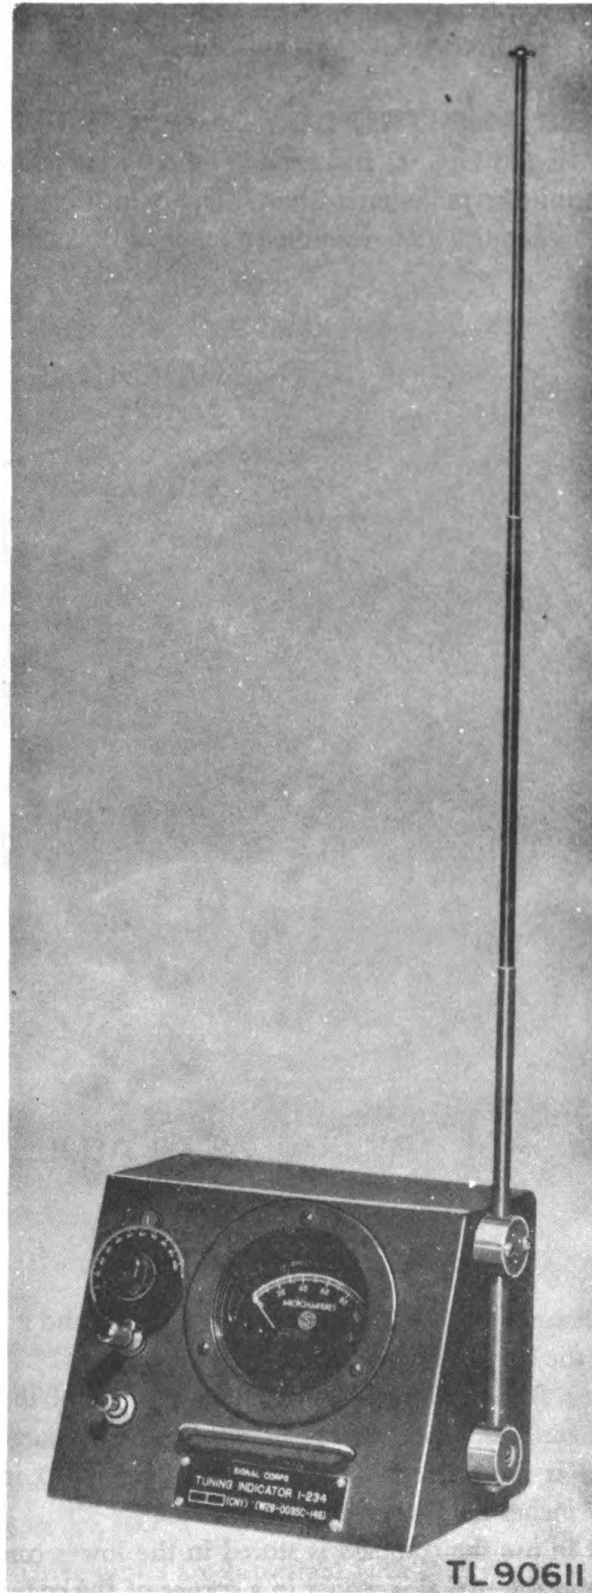

Figure 8. Tuning Indicator I-234.
- a.* The tuning indicator (figs. 8 and 17) is basically a one-tube receiver mounted in a metal case $5\frac{1}{4}$ by $4\frac{1}{2}$ by $6\frac{1}{2}$ inches in size.